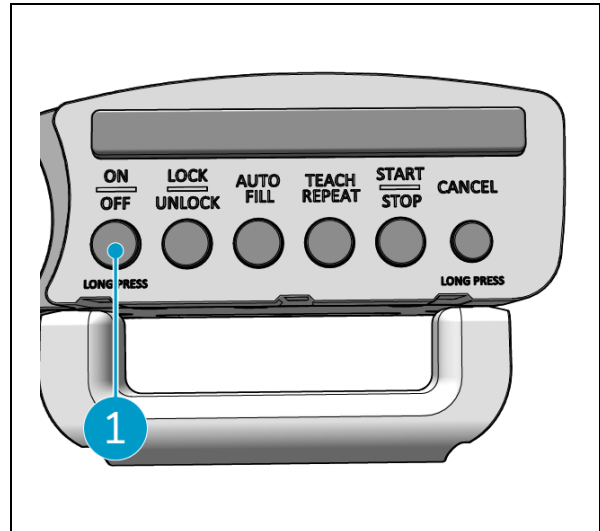

Figure 44
2. Press and hold the ON/OFF button (Figure 44, pos. 1) on the handle controller. The button will flash red once and the lights on the handle controller will turn off.